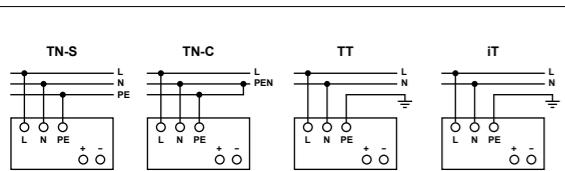

Figure 5
5.1. Input connection (Fig. 1, Fig. 5)